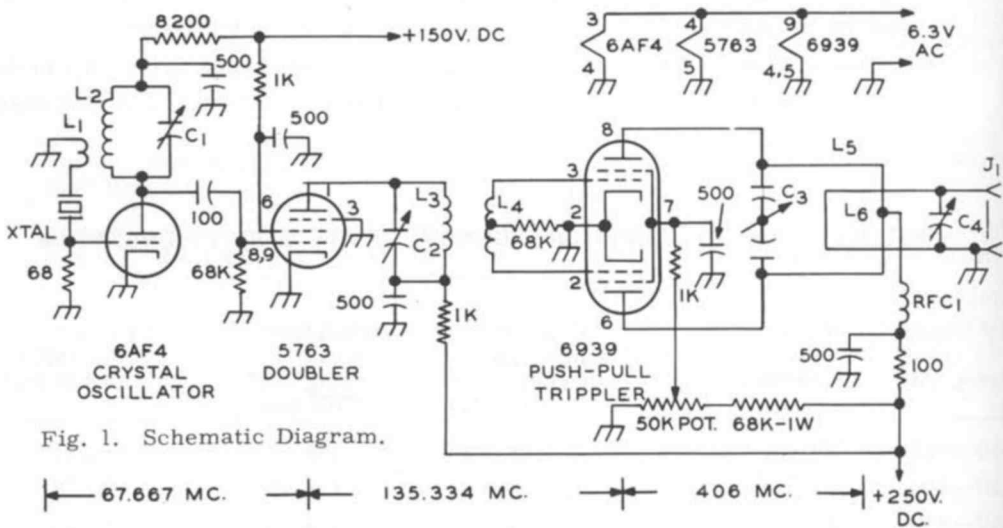

Fig. 1. Schematic Diagram.
The schematic diagram, Fig. 1, for this unit specifies a type 12AU7 harmonic generator, while the text of this article specifies a 12AT7 tube. The circuit values are designed for the 12AU7, but tests indicate that the 12AT7 tube will work in most cases, once the 2-megohm potentiometer is properly adjusted.
3. The connections to P_1 can be obtained from the schematic diagram for the bus-bar system used in the gadget rack, Fig. 1, on page 3 of the September-October, 1958 issue.
1. There has been much interest in changing the i.f. output frequency of the 432-megacycle converter from the 26 to 30-megacycle range, to the low-band TV channels (2 to 6). This enables the converter to be used as a UHF converter for a TV receiver which picks up amateur TV signals in the 420 to 450-megacycle band. The IF output coil, L_5 , (labelled L_4 on the schematic diagram, Fig. 1), should be reduced in inductance to tune the range from 54 to 72 megacycles. A coil made of about 6 turns of No. 16 tinned copper wire, 1/2-inch in diameter and 1/2-inch long, is substituted for the CTC coil specified for L_5 . Turns on this self-supporting coil should be squeezed or stretched so that the pi-network output circuit of the converter will tune to the desired TV channel.
FIG. 1. SCHEMATIC DIAGRAM OF THE BANDSWITCHING HIGH-C VARIABLE FREQUENCY OSCILLATOR VFO. CAPACITORS ACROSS THE OSCILLATOR GRID TUNED CIRCUIT FOR EACH BAND ARE DESCRIBED IN THE TEXT. GRID AND PLATE CIRCUIT FREQUENCIES, "A" AND "B" RESPECTIVELY, ARE LISTED IN TABLE I. ALL CAPACITANCES ARE IN MMF UNLESS OTHERWISE SPECIFIED. CHASSIS GROUNDS SHOULD BE MADE AT POINTS SHOWN.